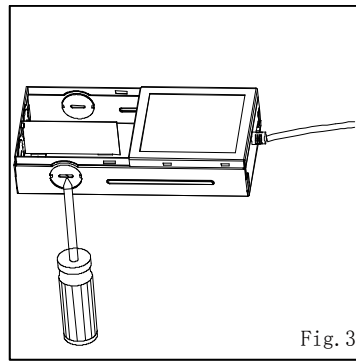

Fig. 3
3. Open knock-off hole. (Fig.3)